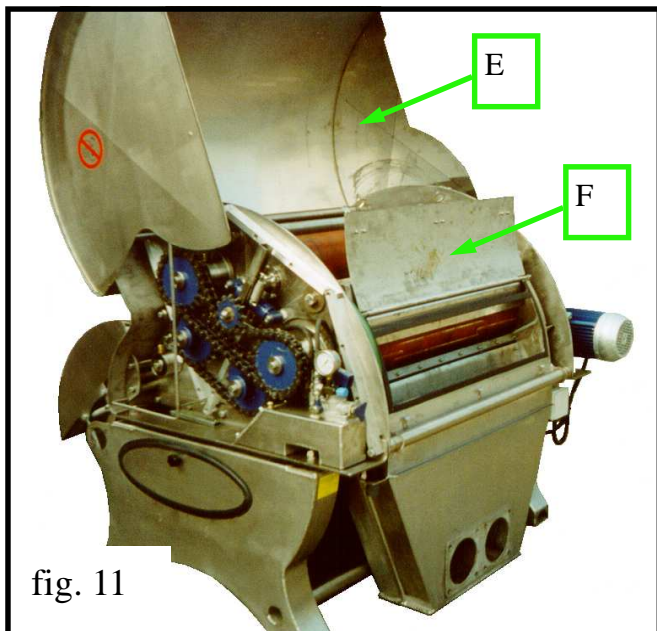
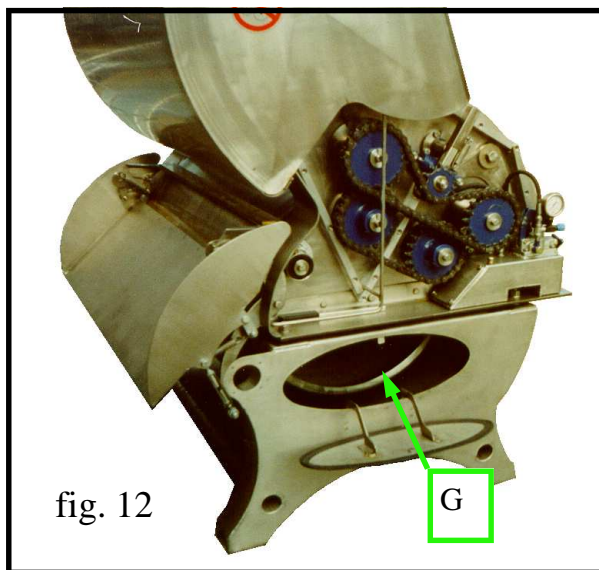

fig. 11
fig. 12
The **WASHING** device comes into operation at functioning end. The valve controls water flow inside the separator. If the water pressure is low, open the covers **E - F** **fig. 11** to have a better cleaning and to wash it manually. The screen can be inspected also through doors **G** **fig. 12**. A manually washing inside the machine can be carried out also through these openings.
- open fig. 12 door and check that the steel wires are worn out (only the central roll must be left).
- Open the door **G** **fig. 12**.